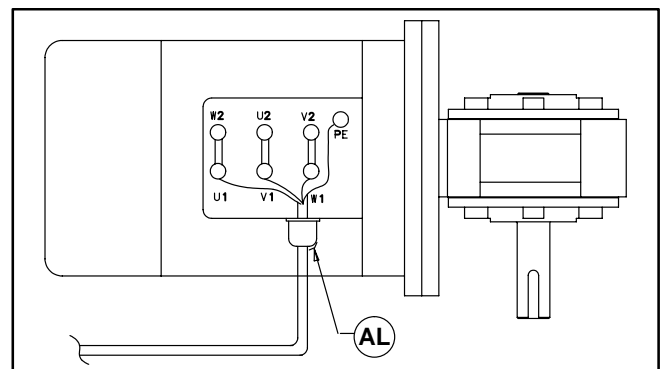

Figure 20
- b. Record wire colors on terminals U1, V1, W1 & PE (Figure 20). Loosen terminals U1, V1, W1 & PE and remove wires.
- c. Loosen cord grip (AL of Figure 20) and remove cord.